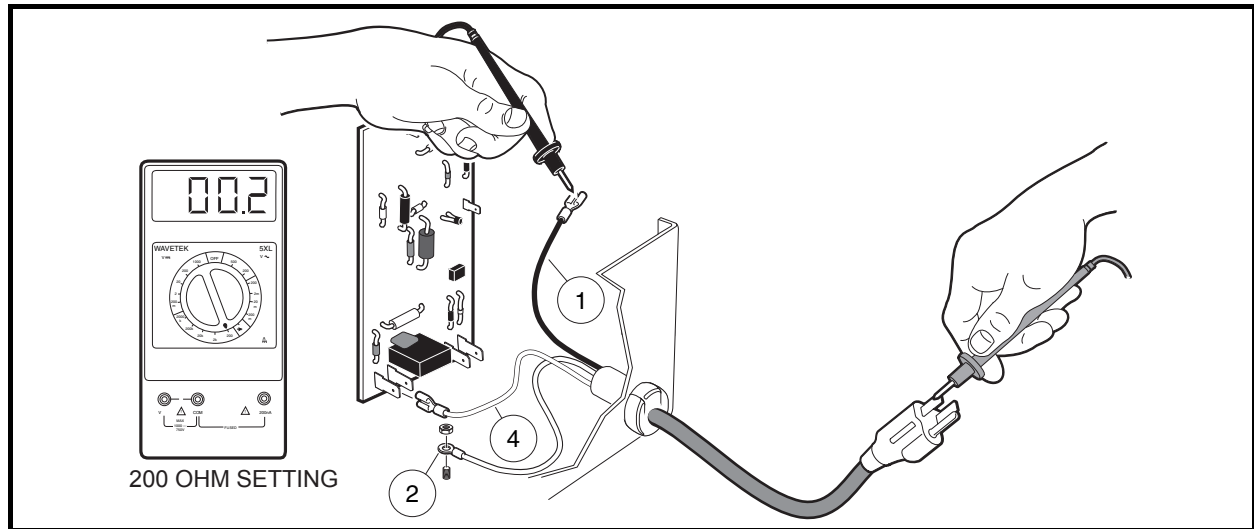

Figure 9-14 Short AC Cord Test
6. Disconnect the green wire (2) from charger case and position it so it does not touch any metal part of the charger (**Figure 9-14, Page 9-19**).